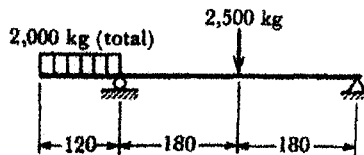

Fig.5 (a)
- 5(a) Construct the complete shear force and bending moment diagram for the beam shown in Fig.5 (a). Also determine the maximum bending moment and the point of contra-flexure.